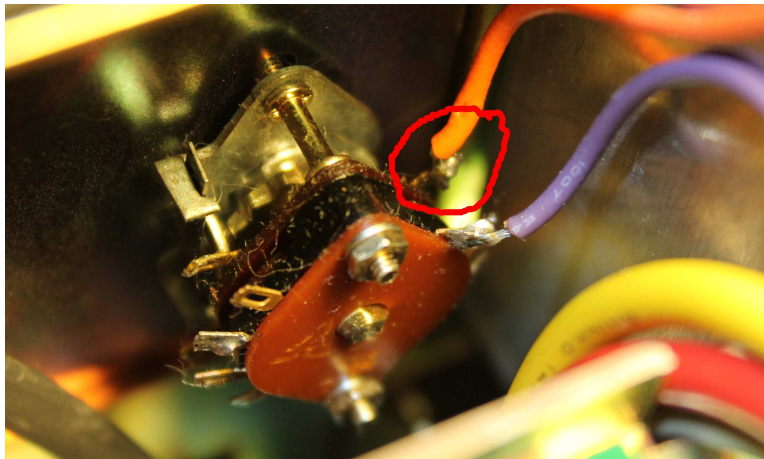

Figure 2.25: Standby-Operate Switch **RY+** connection
- **RY+** – Standby - Operate switch contact (Figure 2.25).